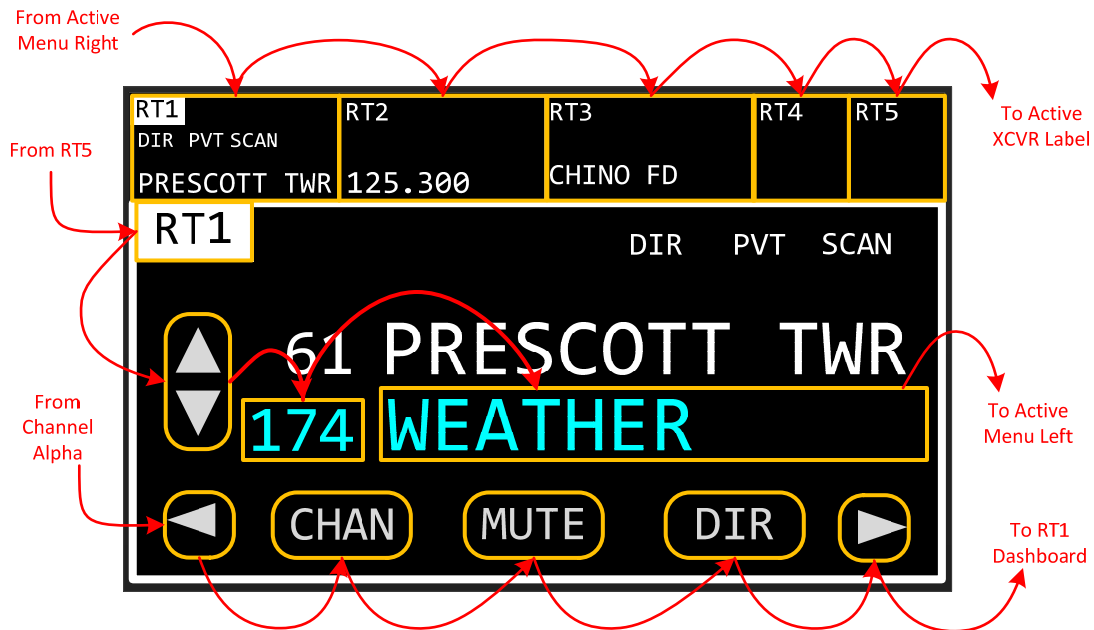

Figure 9 Normal Operation Page Navigation
To Home page shall be navigable by both touch and cursor/value. The screen element that the operator is currently interacting with shall be indicated by a rectangle drawn around the element. This rectangle is termed the focus rectangle. Only one screen element shall be focused at any given time. After three (3) seconds of inactivity, the focus rectangle shall become invisible to avoid screen clutter. The gold boxes (some rounded) in Figure 9 show the screen elements that shall be focusable.
Touching an element gives it the focus. Rotating the cursor knob clockwise shall move the focus rectangle in a generally circular, left-to-right, top-to-bottom fashion. The red arrows in Figure 9 depict the motion of the focus rectangle as the cursor knob is turned clockwise. Turning the cursor knob counterclockwise shall move the focus rectangle in the reverse order of clockwise rotation. If the focus rectangle is invisible due to inactivity, the first turn of the cursor knob shall make the focus rectangle visible, but shall not move it from its previous location.